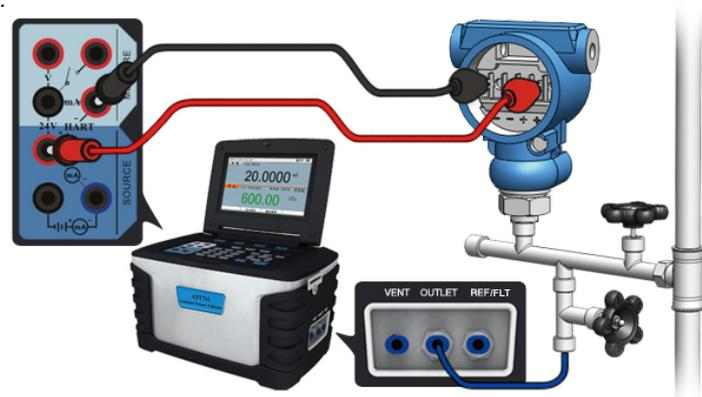

Figure 3-17 Calibrating a pressure transmitter
- ◆ Complete the pneumatic connection as shown in Figure 3-17.
- ◆ Complete the pneumatic and the electrical connections as shown in Figure 3-13 and Figure 3-17, when using internal series resistor and 24V loop power.